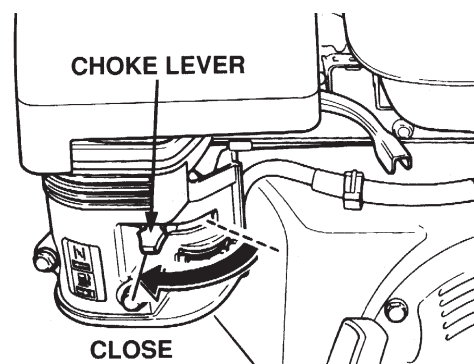

Figure 27. Choke Lever (Closed Position)
8. If operating the SP2 in **cold weather conditions**, place the **Choke Lever** (Figure 27) in the **CLOSED** position.